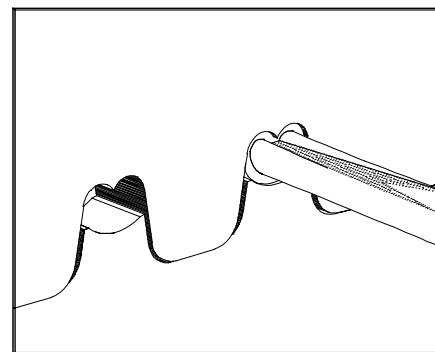

Figure 3
3. Place a wire into the terminal and up against the locator blade, (See Figure 3). On tools without locators line the wire up with the conductor and insulation grips visually.